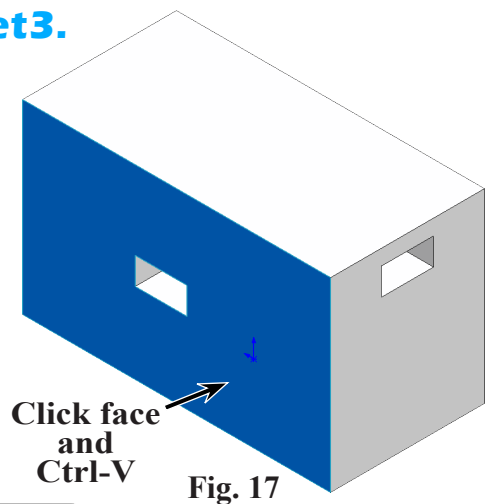

Fig. 17
Step 2. Rotate view to **left side face**, Fig. 17. To rotate view, **Shift** click the **Y** axis of the Reference Triad
Step 3. Again paste **Cut-Extrude1** on side face. Click **side face** and **Ctrl-V**, Fig. 17.